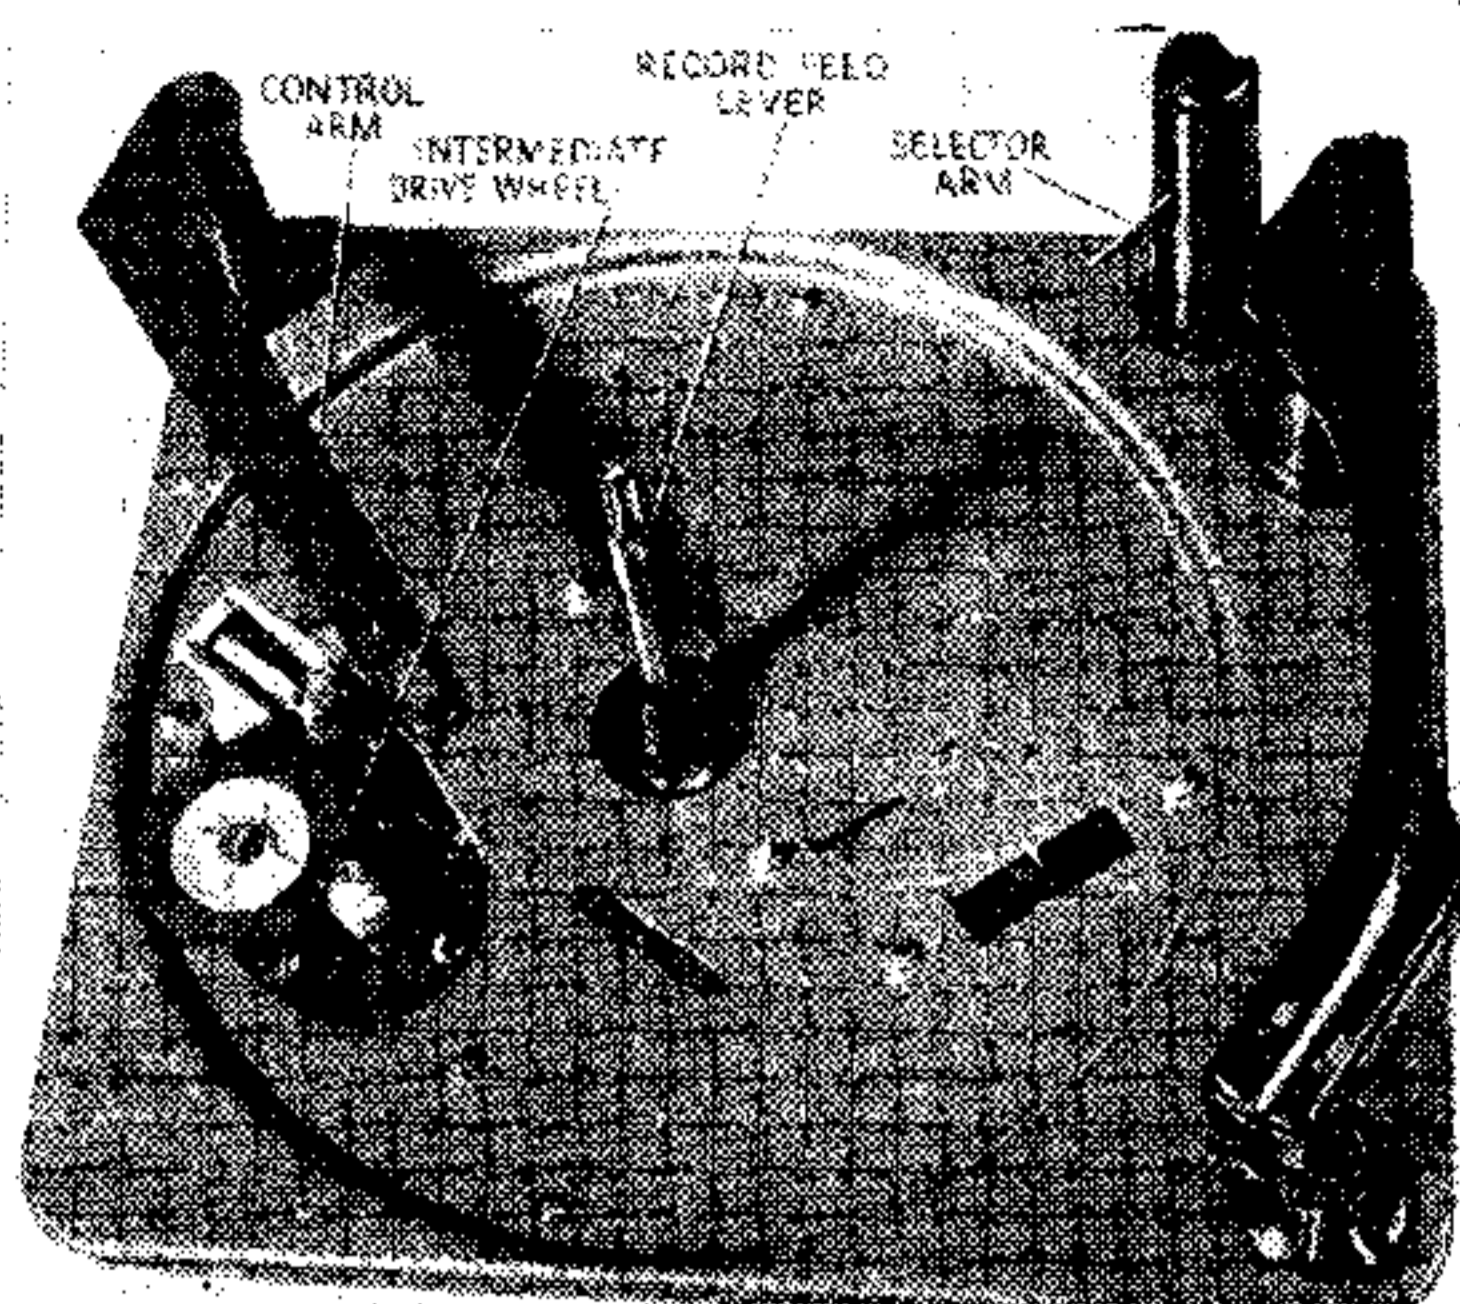

Fig. 2—Top view of changer unit with turntable removed
**To operate the changer**, place one or more records of the same speed on the loading spindle (Fig. 2), put slot on control arm (Fig. 2) over spindle, adjust speed control knob, turn engraved knob on pickup head so that the letters required come uppermost, and switch on. A record can be rejected at any time after it has dropped on to the turntable by means of the ON-OFF-REJECT control. A record cannot be repeated unless it is repositioned on the loading spindle.
(with rubber mat) is recessed into the baseplate and, together with the changer mechanism, is driven by a four-pole induction motor. The motor drives the turntable through a spring-loaded, intermediate 2in. rubber-tired wheel which bears upon its inside rim (Fig. 2). The wheel engages with a three-step drive bush attached to motor spindle. Steps on drive bush provide three different speeds, since, as the engraved speed control knob is turned, a lever connected to it raises or lowers the intermediate drive wheel so that it engages with the smallest diameter step (33½ rpm.), the middle step (45 rpm.) or the largest of the three which provides the fastest speed (78 rpm.).
Control arm (Fig. 2) serves a double purpose. It prevents records tilting and jamming on the loading spindle and also, through a series of levers, ensures that the mechanism is switched off after the last record has been played.